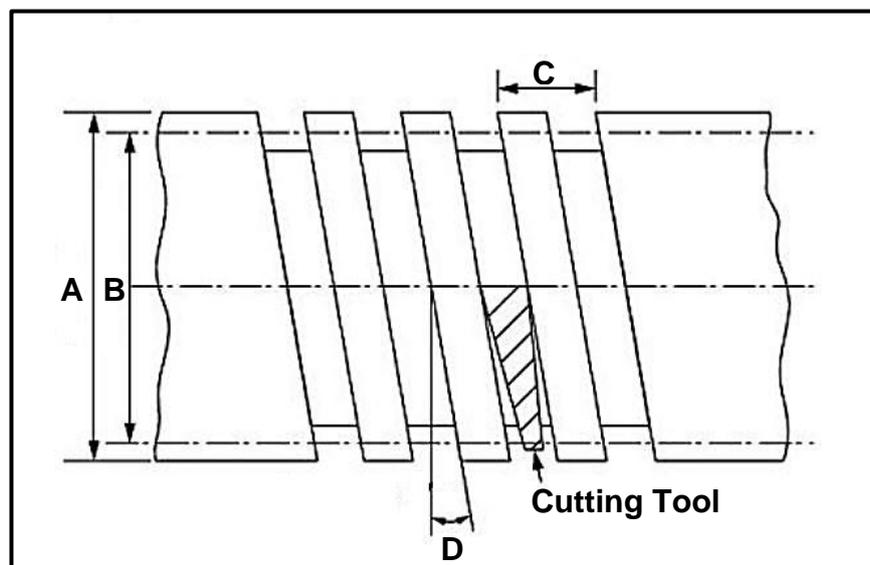

FIGURE 10.2
- 10.2 FIGURE 10.2 below shows a square screw thread. Label **A–D**.